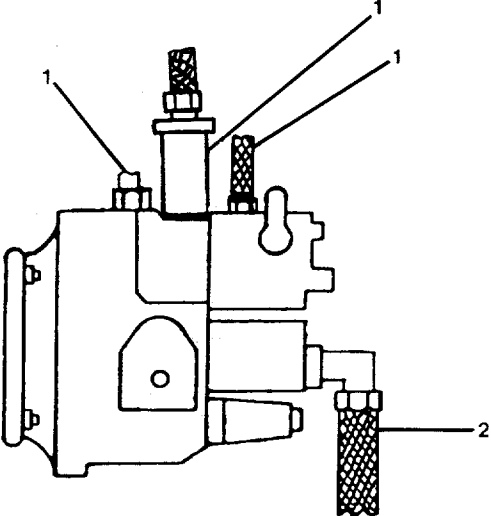
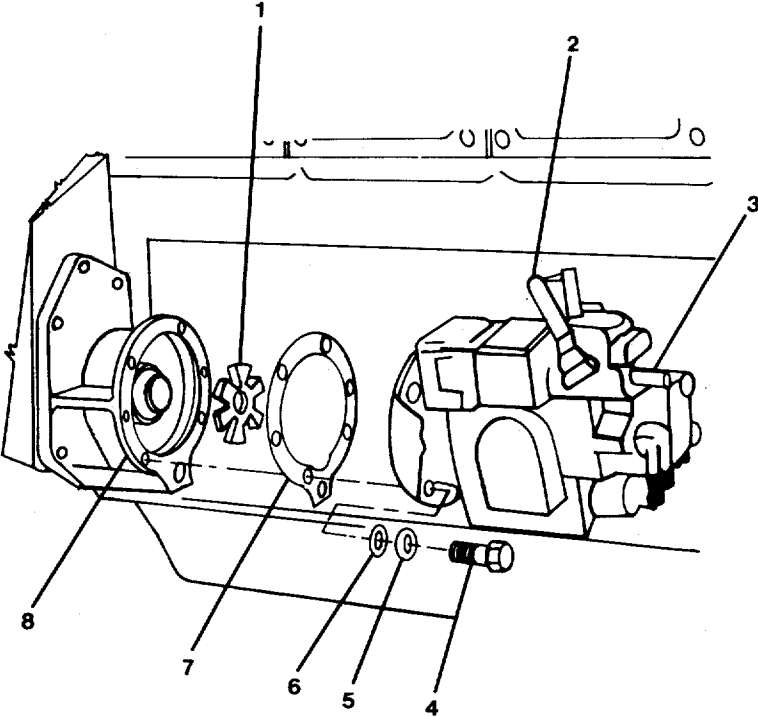

FIGURE 2-26. *Fuel Pump External Components.*
FIGURE 2-27. *Fuel Pump External Throttle Components.*
- a. Remove fuel input and output lines (2 and 1, FIG. 2-26) attached to the cam-actuated fuel pump (3, FIG. 2-27).
- c. Remove linkage from throttle lever (2).
- d. Remove four hexagon head capscrews (4), lockwashers (5) and flat washers (6) retaining cam-actuated fuel pump (3) to the engine block (8).
- e. Remove cam-actuated fuel pump (3) and gasket (7). Discard gasket.
- f. Remove flexible coupling insert (1).
- g. Loosen throttle level capscrew and remove throttle lever (2).
- a. Position flexible coupling insert (1, FIG. 2-27) on pump shaft.
- b. Position lockwasher (5) and washer (6) on each hexagon head capscrew (4).
- c. Insert hexagon head capscrews (4) through boltholes in fuel pump mounting flange.
- d. Position gasket (7) on pump mounting flange with hexagon head capscrews (4) through boltholes of gasket (7).
- e. Align flexible coupling insert (1) with drive coupling shaft in engine (8).
- f. Install cam-actuated fuel pump (3) with hexagon capscrews (4) aligned with boltholes in engine (8). Tighten hexagon head capscrews (4) to 35 ft-lb (47 Nm).
- g. Install throttle lever (2) and tighten capscrew until hand tight. Connect linkage to throttle lever (2).
- h. Connect input and output fuel lines (2 and 1, FIG. 2-26).